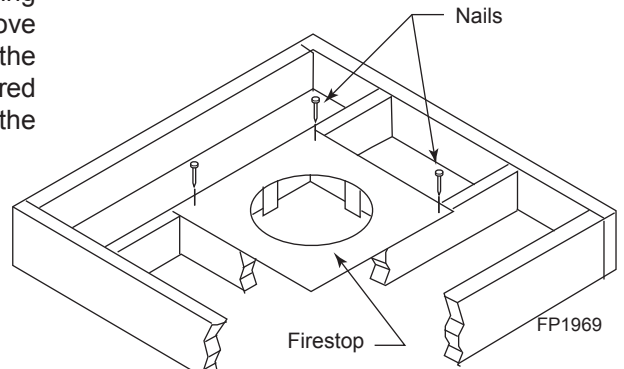

Figure 33 -
1. Cut a 9½" (241 mm) square hole in the ceiling using the locating hole as a center point. The opening should be framed to 9½" x 9½" (241 x 241 mm) inside dimensions as shown in Figure 33 using framing lumber the same size as the ceiling joist. If the area above the ceiling is an insulated ceiling or a room, nail firestop from the top side. This prevents loose insulation from falling into the required clearance space. Figure 33. Otherwise, install firestop below the framed hole.